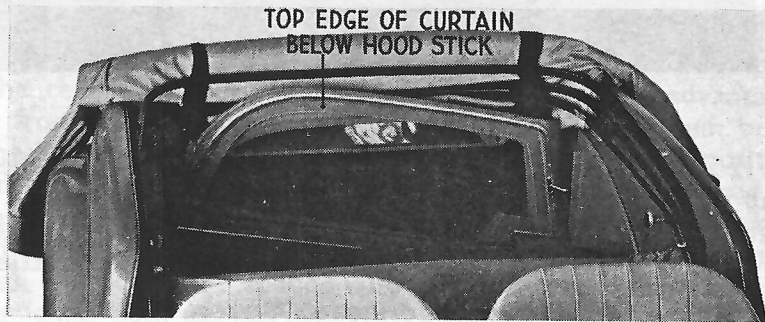

Fig. 26. Curtains in Recess.
7. Place the near-side curtain in the recess at the back of the rear squab with the pegs pointing downwards and the inside of the curtain facing forward. See Fig. 26.